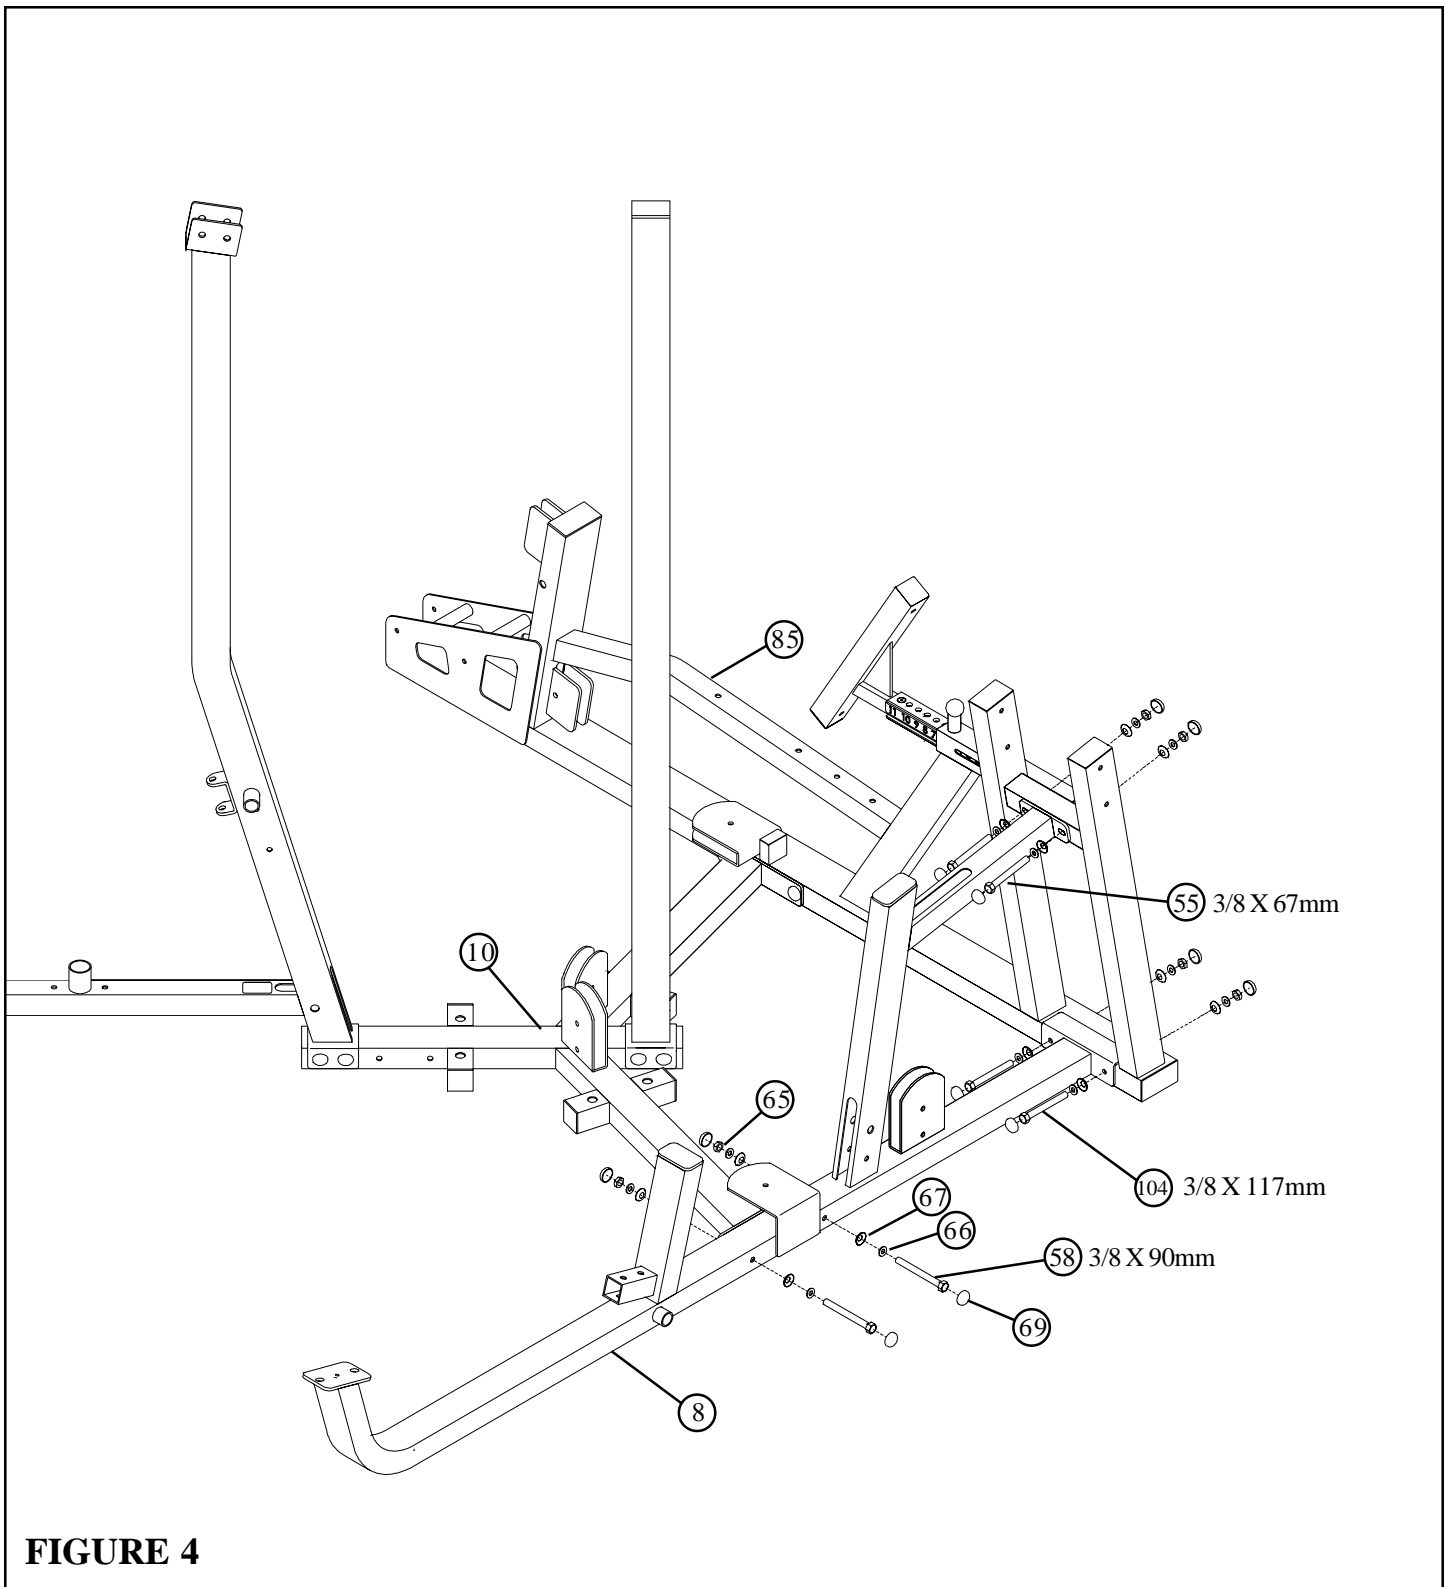

FIGURE 4
- **LOOSELY** assemble the MULTI PRESS FRAME (8) to the LEG PRESS FRAME (85) using eight RH CAPS (69), two 3/8 X 117mm BOLTS (104), two 3/8 X 67mm BOLTS (55), eight 3/8" SAE WASHERS (66), eight 3/8" RH WASHERS (67) and four 3/8" LOW HEIGHT LOCK NUTS (65) as shown in FIGURE 4. (NOTE: The two 3/8 X 117mm BOLTS (104) for this step are in the LEG PRESS hardware bag.)
- **LOOSELY** assemble the MULTI PRESS FRAME (8) to TOWER BASE (10) using four RH CAPS (69), two 3/8 X 90mm BOLTS (58), four 3/8" SAE WASHERS (66), four 3/8" RH WASHERS (67) and two 3/8" LOW HEIGHT LOCK NUTS (65) as shown in FIGURE 4.